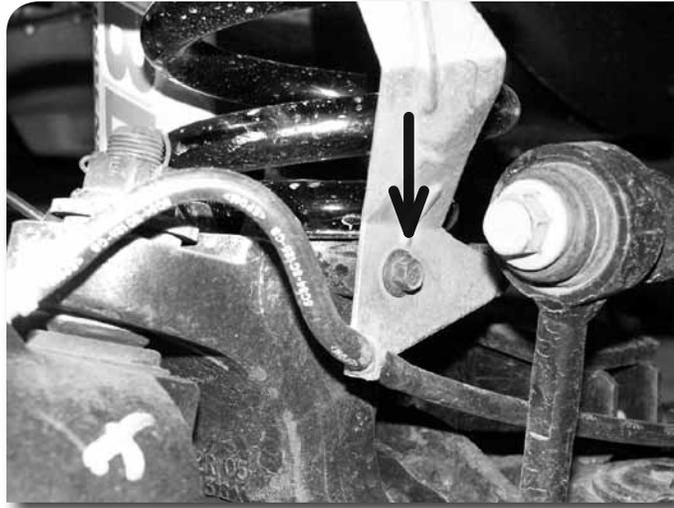

Figure 4
9. Disconnect the brake line bracket from the front of the coil perch (Fig 4). Retain hardware.